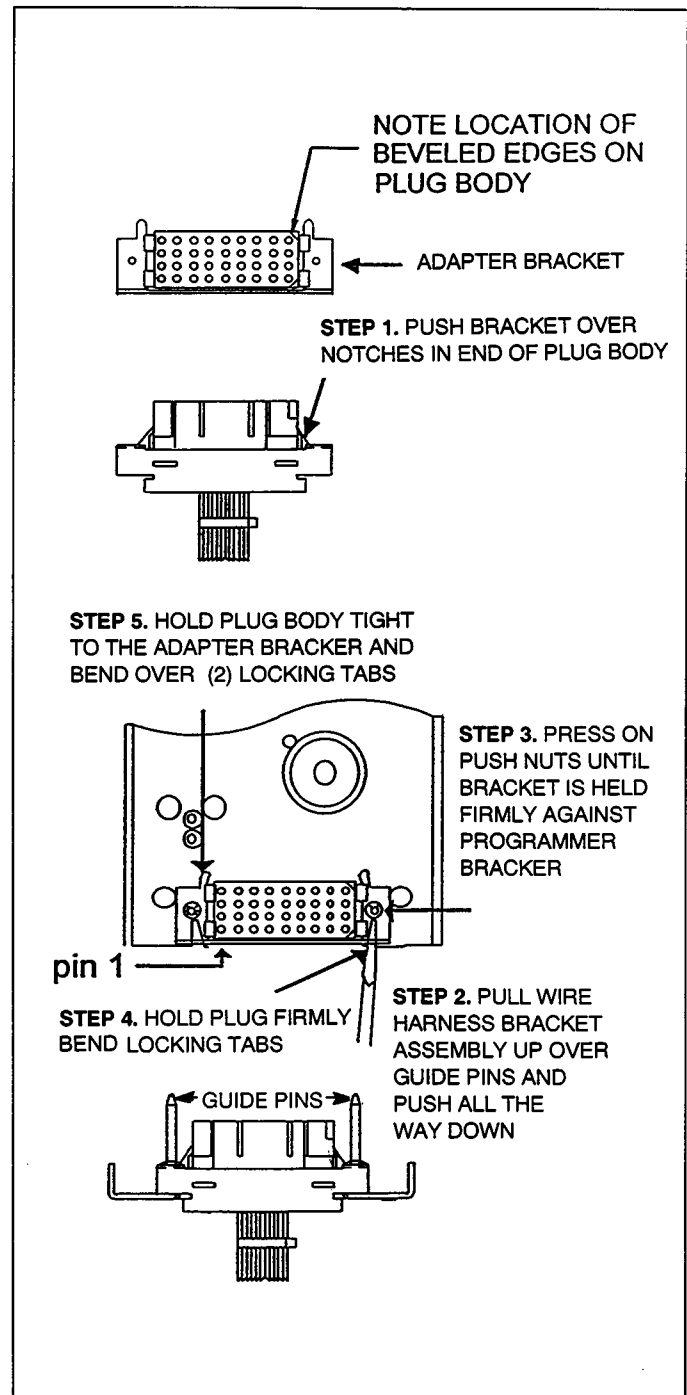

Fig. 4-3. Harness Connector
Install the harness connector on the bottom of the programmer bracket. Follow the steps shown in Figure 4-3 (Note: If the communications harness is not installed, the related pins may be removed first.
**CAUTION:** Adapter bracket must be installed onto harness plug as shown in Fig. 4-3. Failure to do so will result in harness plug failure and the programmer will not provide protection.